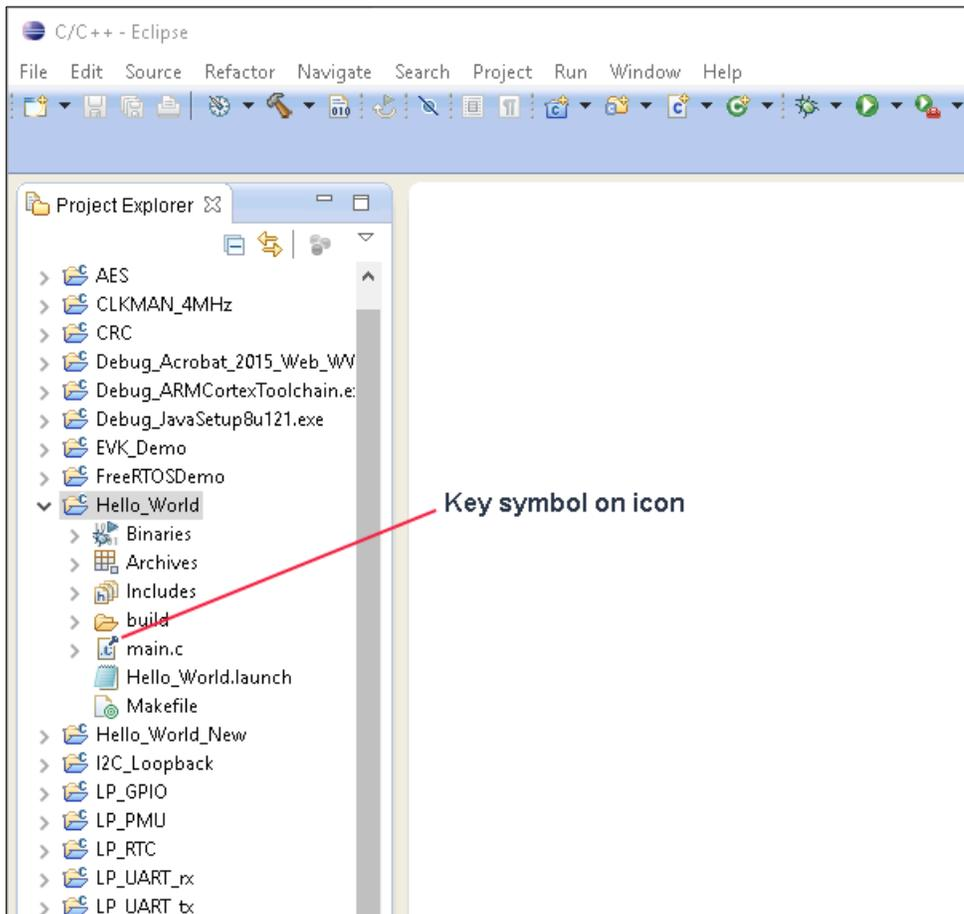

Figure 24. Hello_World main.c source file.
2. Expand the **Hello_World** folder, as shown in **Figure 24**.